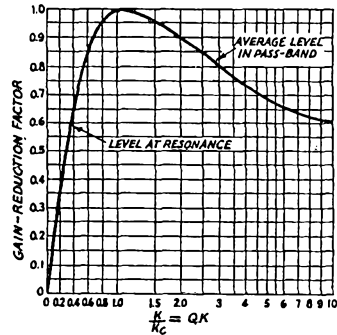

Fig. 6 — Output level as a function of coupling.
As a result of the lack of reflected resistance at low values of coupling and double-humping when circuits are over-coupled, the resonant-frequency gain at couplings other than critical are always less than at critical. Fig. 6 shows
For the above example of i.f. transformer design, $Qk = 2$, and Fig. 6 shows that this corresponds to a gain-reduction factor of 0.9; that is to say the gain is 0.9 of that given by Eq. (17).